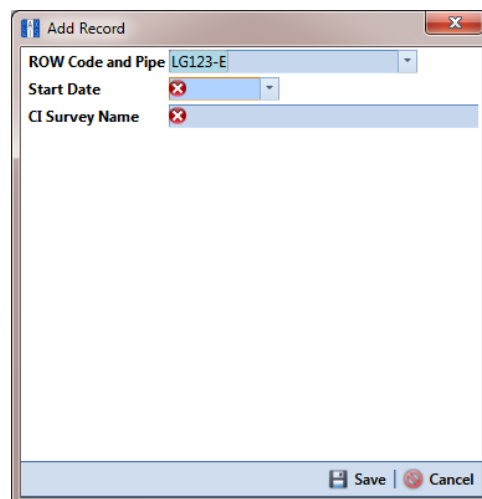

Figure 6-6. Add Record
- 7 Click  **Save** to display required fields for data entry. Required fields are identified with the  icon, such as *Start Date* and *CI Survey Name* in the next figure (Figure 6-6).